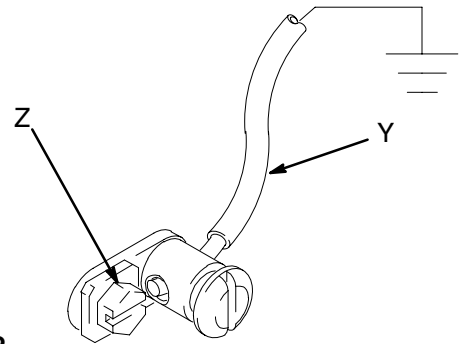

Fig 2
Remove the ground screw (Z) and insert through eye of ring terminal at the end of ground wire (Y). Fasten ground screw back onto pump and tighten securely. See Fig 2. Connect the other end of the wire to a true earth ground. Order Part No. 222011 Ground Wire and Clamp.